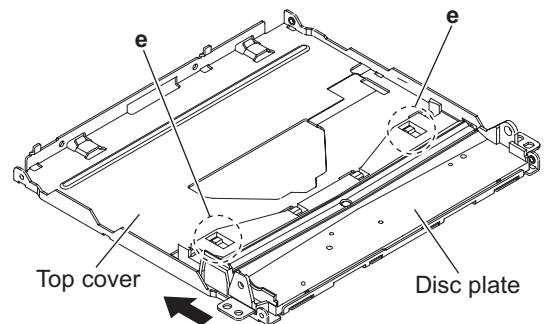

Fig.7
### 3.2.4 Removing the PHOTO BOARD assembly (See Fig.7 and 8)
- (1) From the bottom side of the top cover, release the projection **e** from the notch of the disc plate. (See Fig.7.)
- (2) Take out the disc plate in the direction of the arrow. (See Fig.7.)